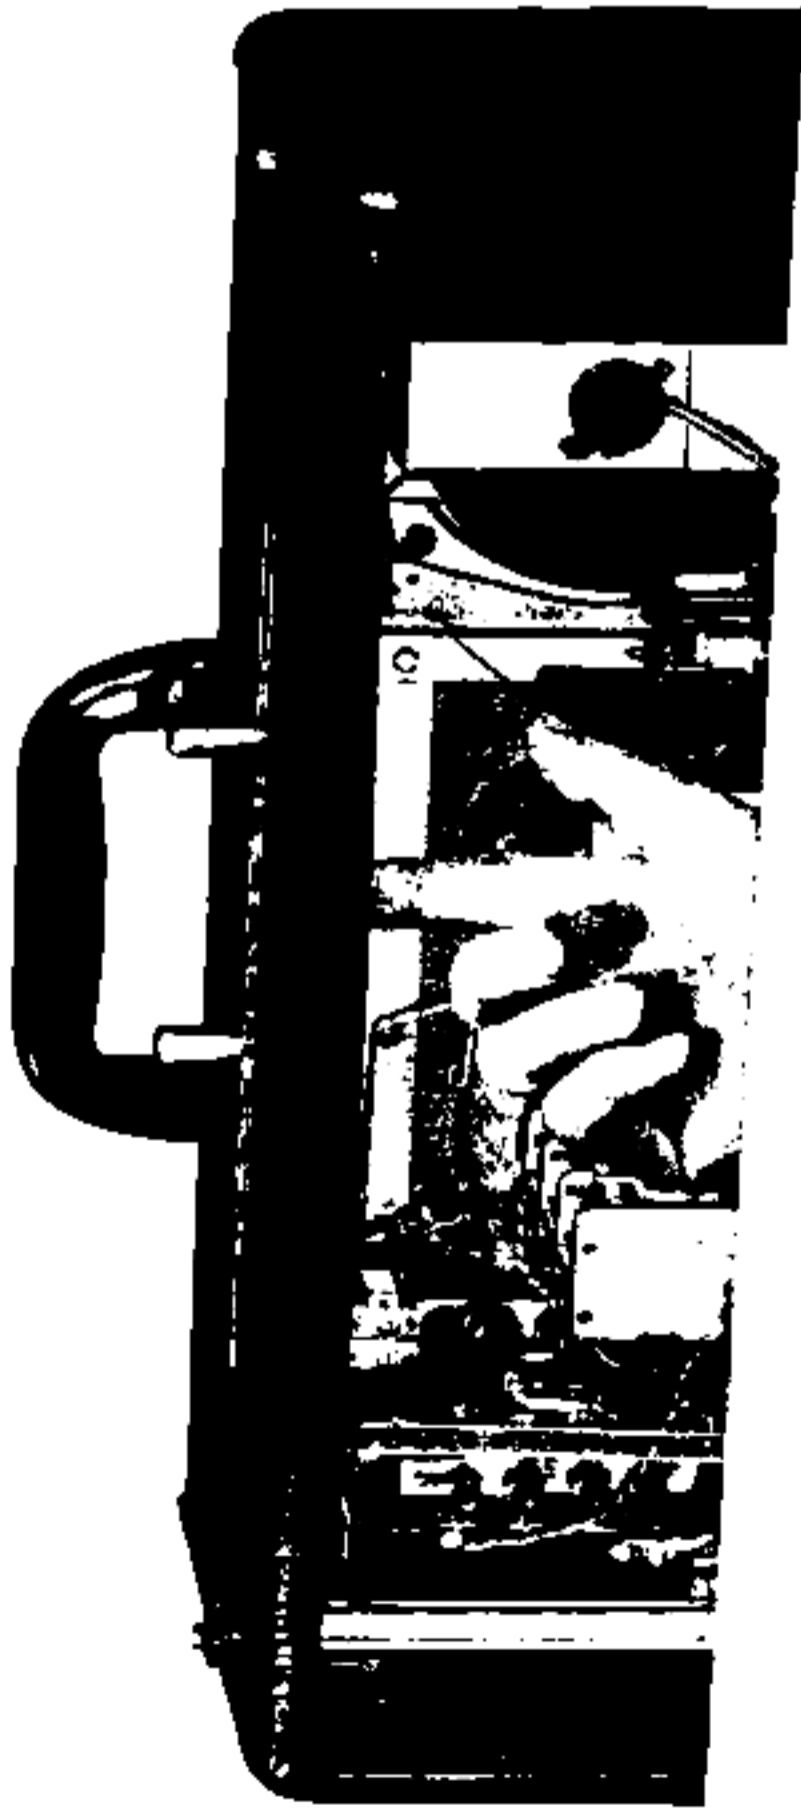

Figure 15—Press Up Thru Finger Hole to Remove Wavemagnet.
- A. In steel structures and vehicles, remove the Broadcast Wavemagnet by pressing up through the finger hole provided at the center under edge of the cabinet top. (See fig. 15.)
2. Remove the Broadcast Wavemagnet by pressing up through the finger hole provided at the center under the edge of the cabinet top. (See Fig. 15.)